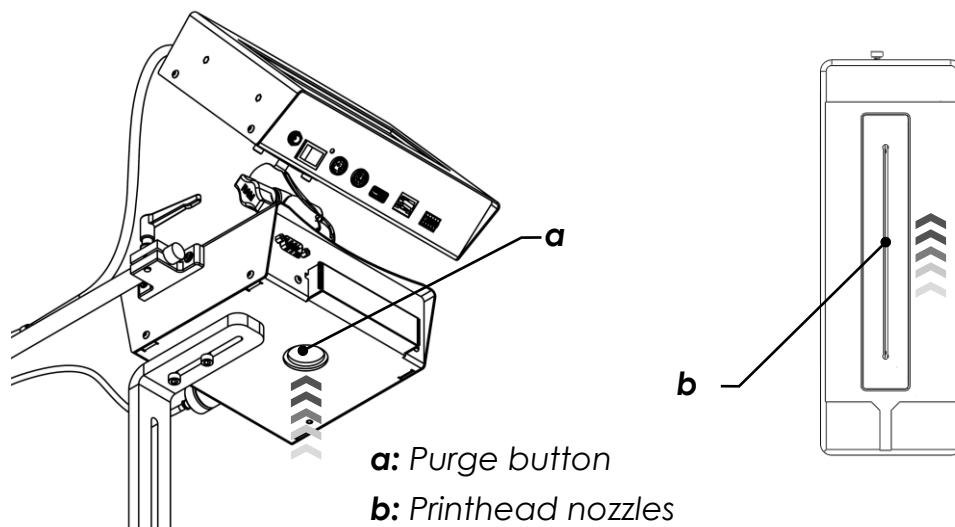

Figure 40
- Push purge button located on the bottom of the ink cartridge through the round opening located on the underside of the ink supply unit until ink flows from the print head nozzles (see Figure 40).